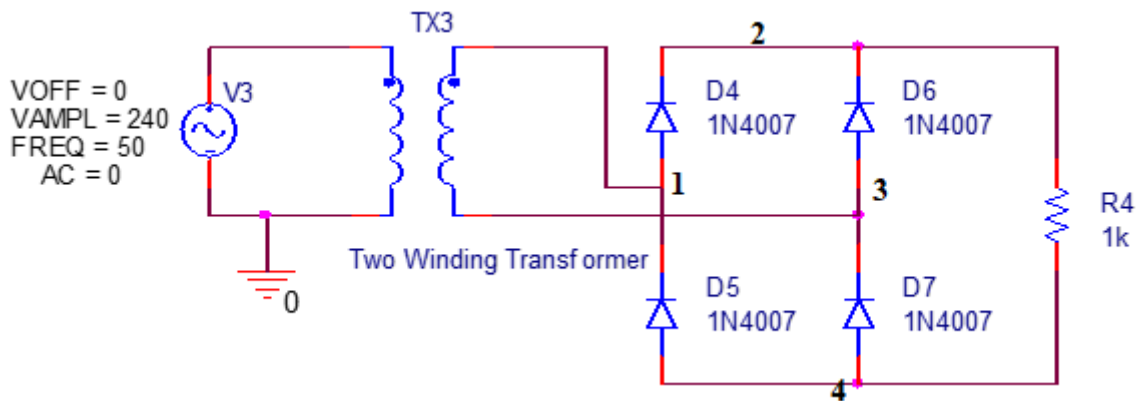

Figure 2.5: Schematic for simulation of full-wave bridge rectifier
1. Implement the circuit shown in Figure 2.5.
2. Obtain waveforms of voltage at Nodes 1 and 3 with reference to Node 4 and the output voltage which is at point 2 in with reference to Node 4 in Figure 2.5. Note that, Node 4 is the Reference Node.